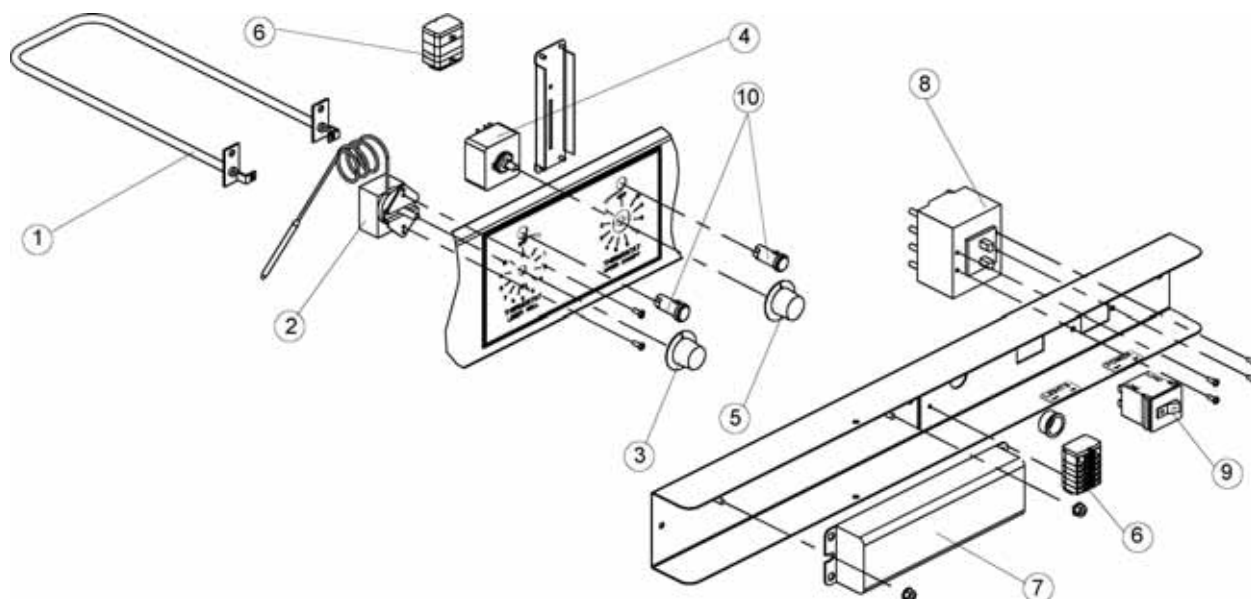

**Figure 6.** Joining WDCTY Cases
3. Connect the canopies using the  $\frac{1}{4}$ "-20 X 3" bolt and nut provided (see Figure 6, View A-A). Replace the top inside covers.